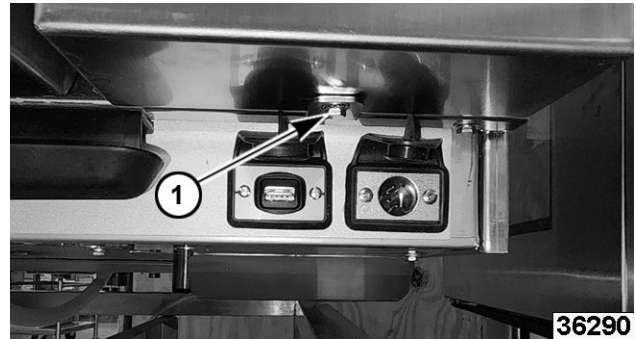

Fig. 4
1. Remove 7 mm bolt (1, Fig. 4) on bottom of front control panel.